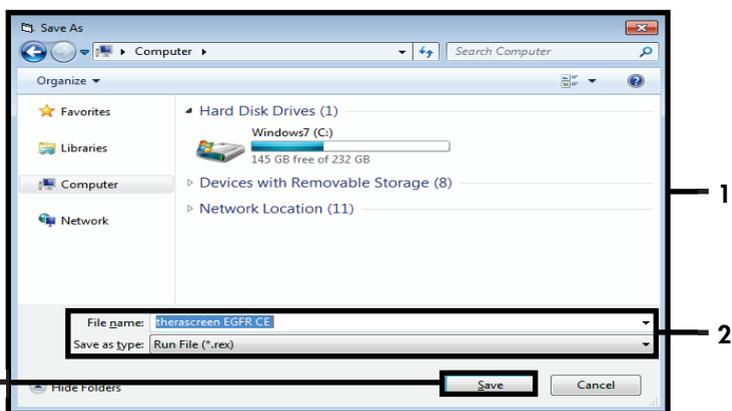

Figure 6. “Save As” window (1). 2 = “File Name” and “Save as type” fields; 3 = “Save.”
17. Select an appropriate file name and save the PCR run as a *.rex run file to the selected location. Click **Save** (Figure 6).